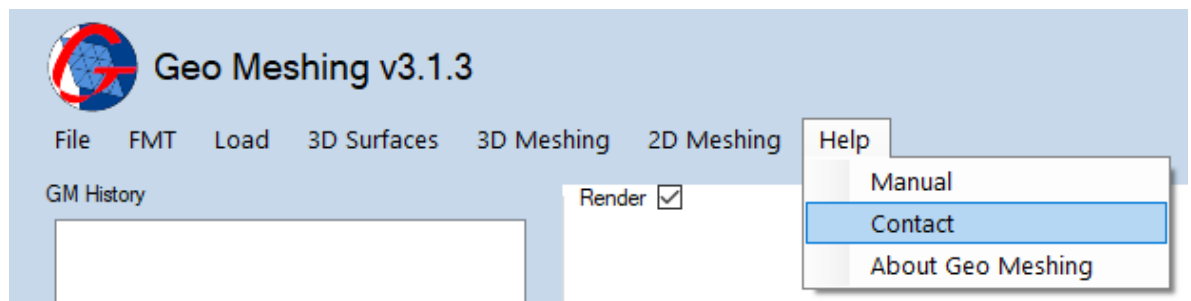

Figure 34: Help Strip Menu – Contact.
- **Help Menu, Contact:** This option (shown in Figure 34) displays support information.